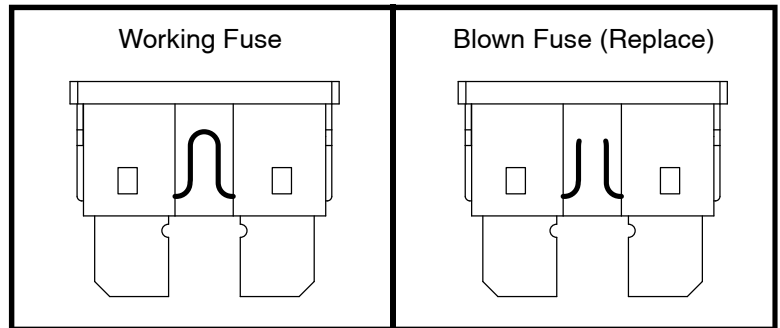

Figure 34. Fuse Replacement
2. Examine the fuse to be sure it is blown. See figure 34.